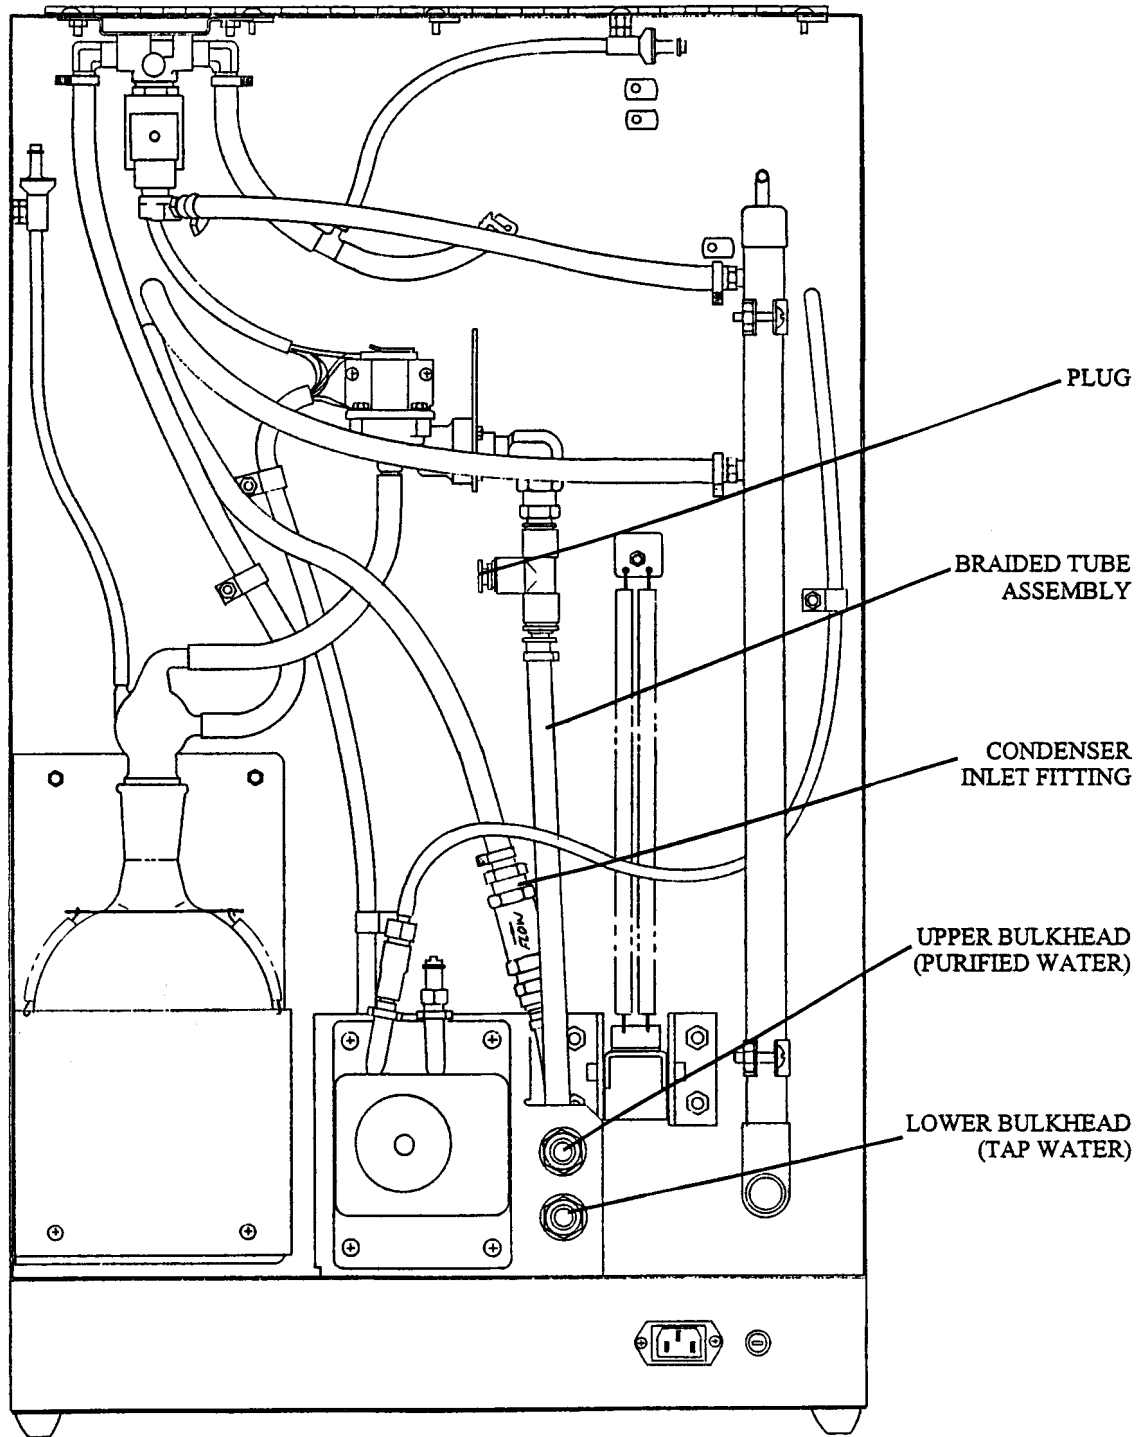

Figure 6
- (7) Plug the flow restrictor outlet into the condenser inlet fitting, as shown in Figure 6.
- (8) Install the braided tube assembly supplied with the kit from the bulkhead union installed in Step #4 to the T-shaped fitting.
- (9) Install the supplied plug into the open port of the T-shaped fitting.
- (10) When completed, the installation should appear as shown in Figure 6. The upper bulkhead fitting (that was just installed) supplies the boiler with water and may be connected to a purified water source. The lower bulkhead fitting (the original fitting) will now supply only the condenser with cooling water and should remain connected to an appropriate supply of feed water (tap water).